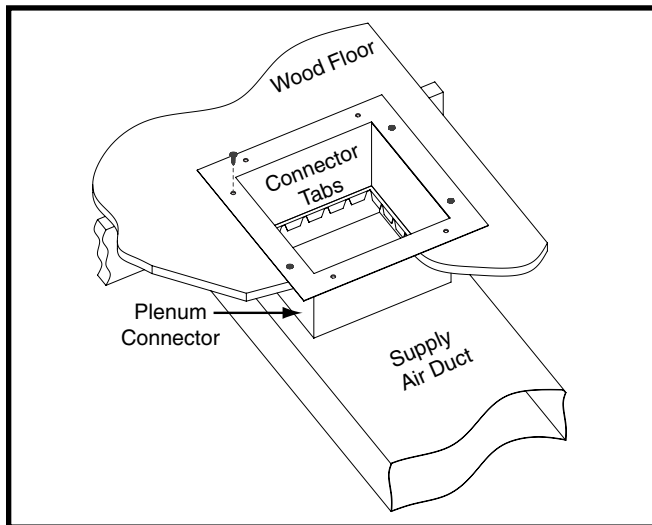

Figure 6. Duct Connector Installed
6. Install the duct connector back in the floor opening with the bottom tabs extending into the supply air duct. See Figure 6.